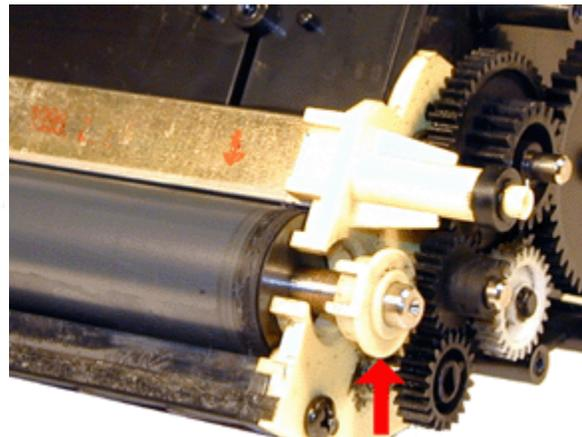

FIGURE 33
30. Install the developer roller bushing See Figure 33